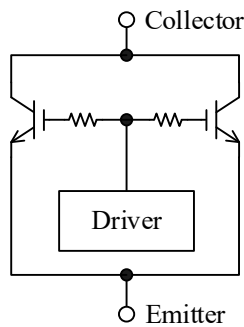

Figure 2-11. Ideal Connection in Parallel
- If the IGBTs connected in parallel are driven by different drivers, the operation of the IGBTs varies due to the effect of the output delay time for each driver. Therefore, drive the IGBTs connected in parallel with one driver as shown in Figure 2-11.